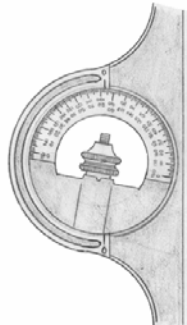

Figure 3
3. Turn the protractor around to read the angle as shown in Figure 3. Start from either zero point.